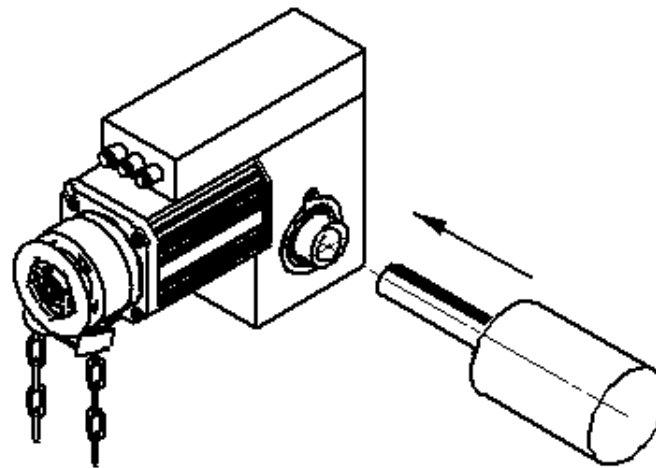

Fig.2
(1) Direct installing (see Fig.2): attach the drive unit onto the roller shaft directly.